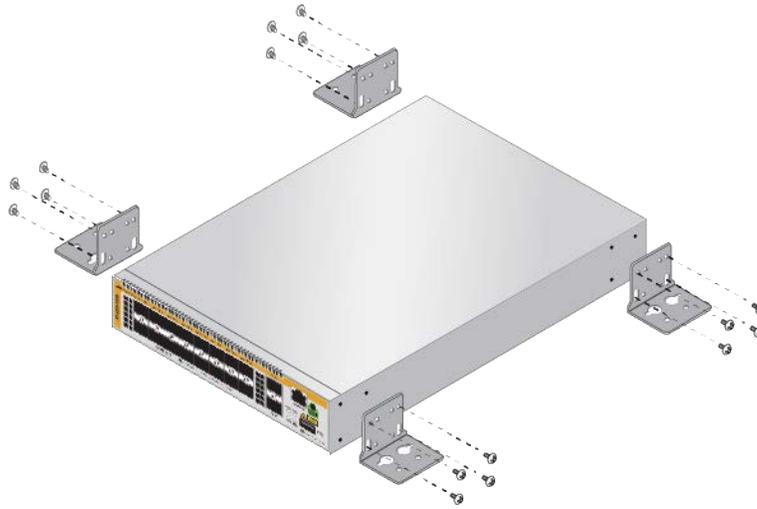
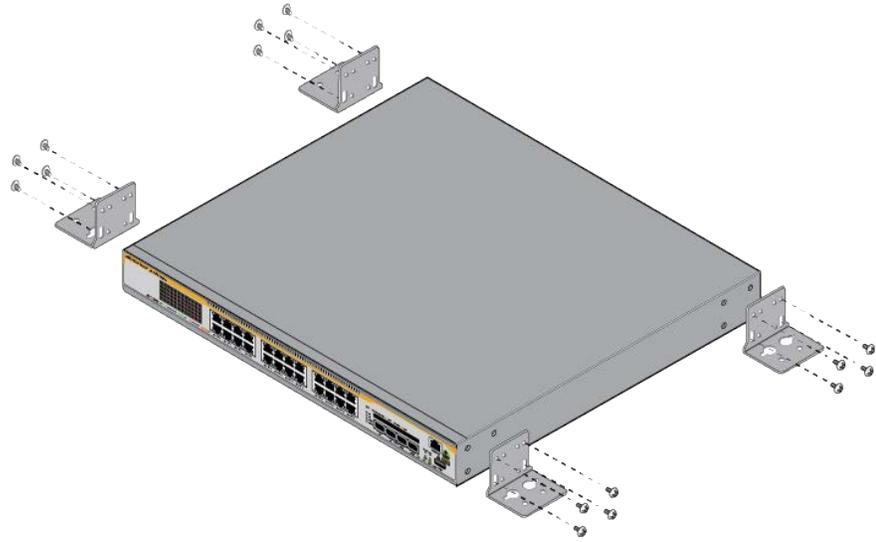

Figure 48. Installing the BRKT-J24 Brackets to the x250-18XS Switch
Figure 49. Installing the BRKT-J24 Brackets to the x250-28XTm Switch
See Figure 48 and Figure 49 on page 84 for examples.
2. Install the four brackets with sixteen screws that come with the BRKT-J24 brackets to the sides of the switch, as shown in Figure 48 on page 83 and Figure 49 on page 84.